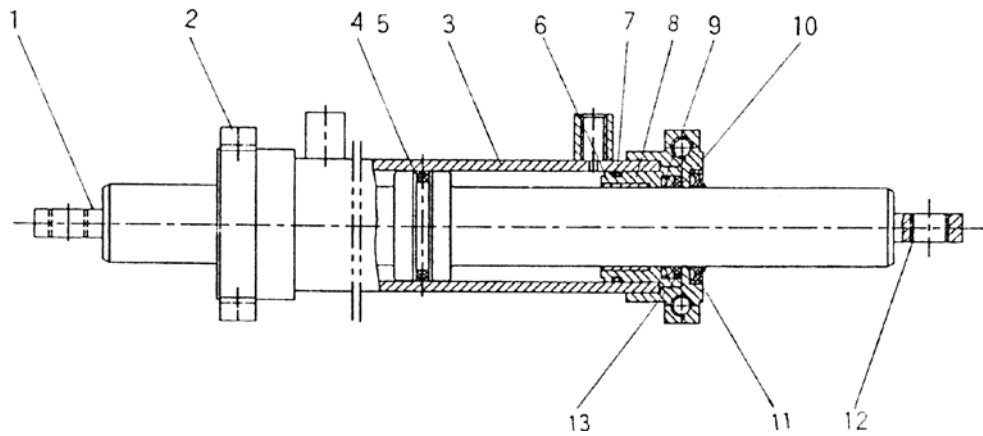

Fig.6-3 Steering cylinder
(2) Steering cylinder (See Fig.6-3)